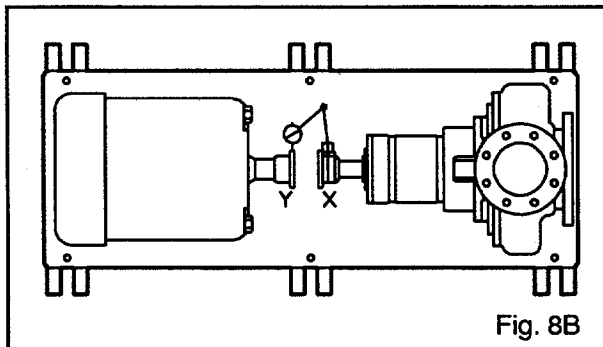

Fig. 8B
- Negative Reading** - Coupling half Y is to the left of coupling half X. Correct by sliding driver evenly in the appropriate direction (Fig. 8B).